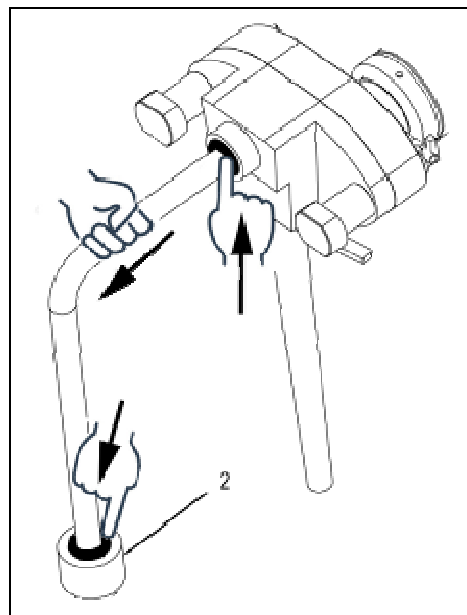

Fig. 2
pressing the dark collar into the inside and with the other hand pull the tube out (fig. 2).
- **R**emove the flow tube from the tank fitting 2 and then unscrew the fitting itself from the tank (fig.2).